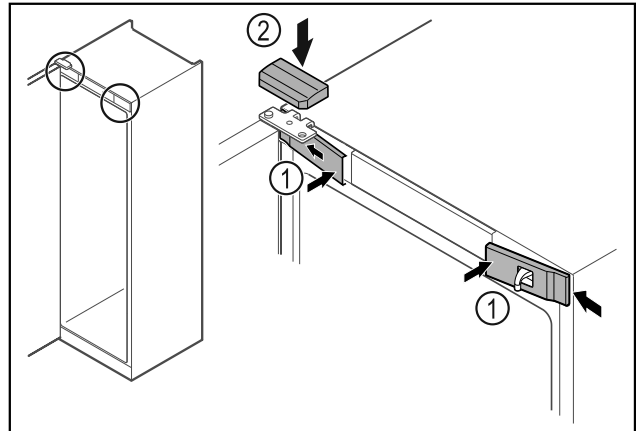

Fig. 52
- Hook in the front covers *Fig. 52 (1)* on the side and snap them into place.
- Snap on the top cover *Fig. 52 (2)* from above.